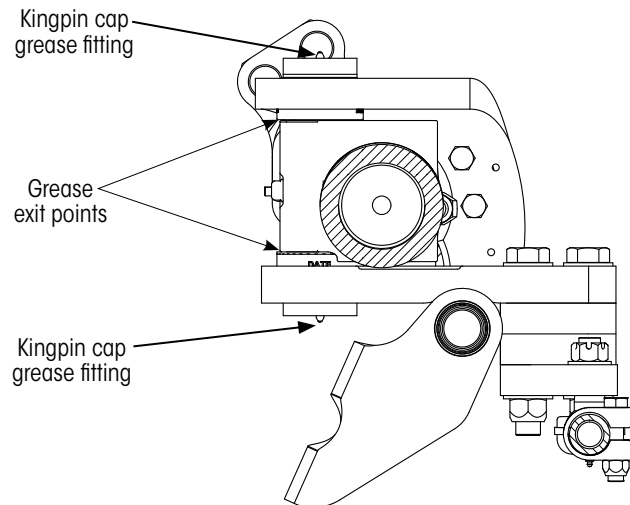

Figure 2: Kingpin Lubrication
- A. Kingpin - upper and lower grease fittings on the top and bottom of the steering knuckle. Apply grease until fresh grease can be seen exiting from joints shown in Figure 2.